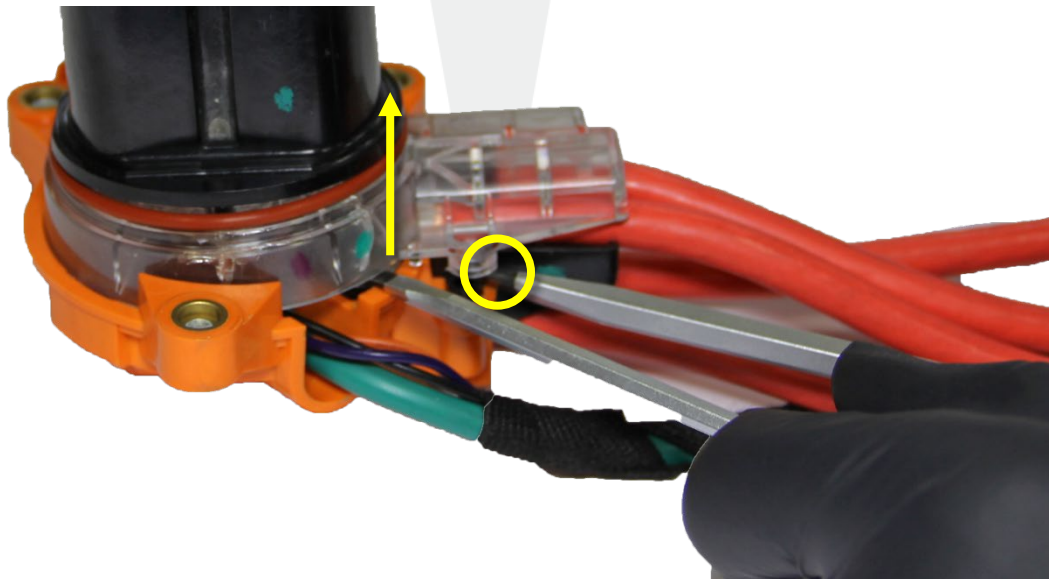

Figure 23
5. While keeping the screwdriver wedged between the pin carrier and pin carrier cap, use another flat screwdriver or similar tool to separate the pin carrier from the pin carrier cap (Figure 23).